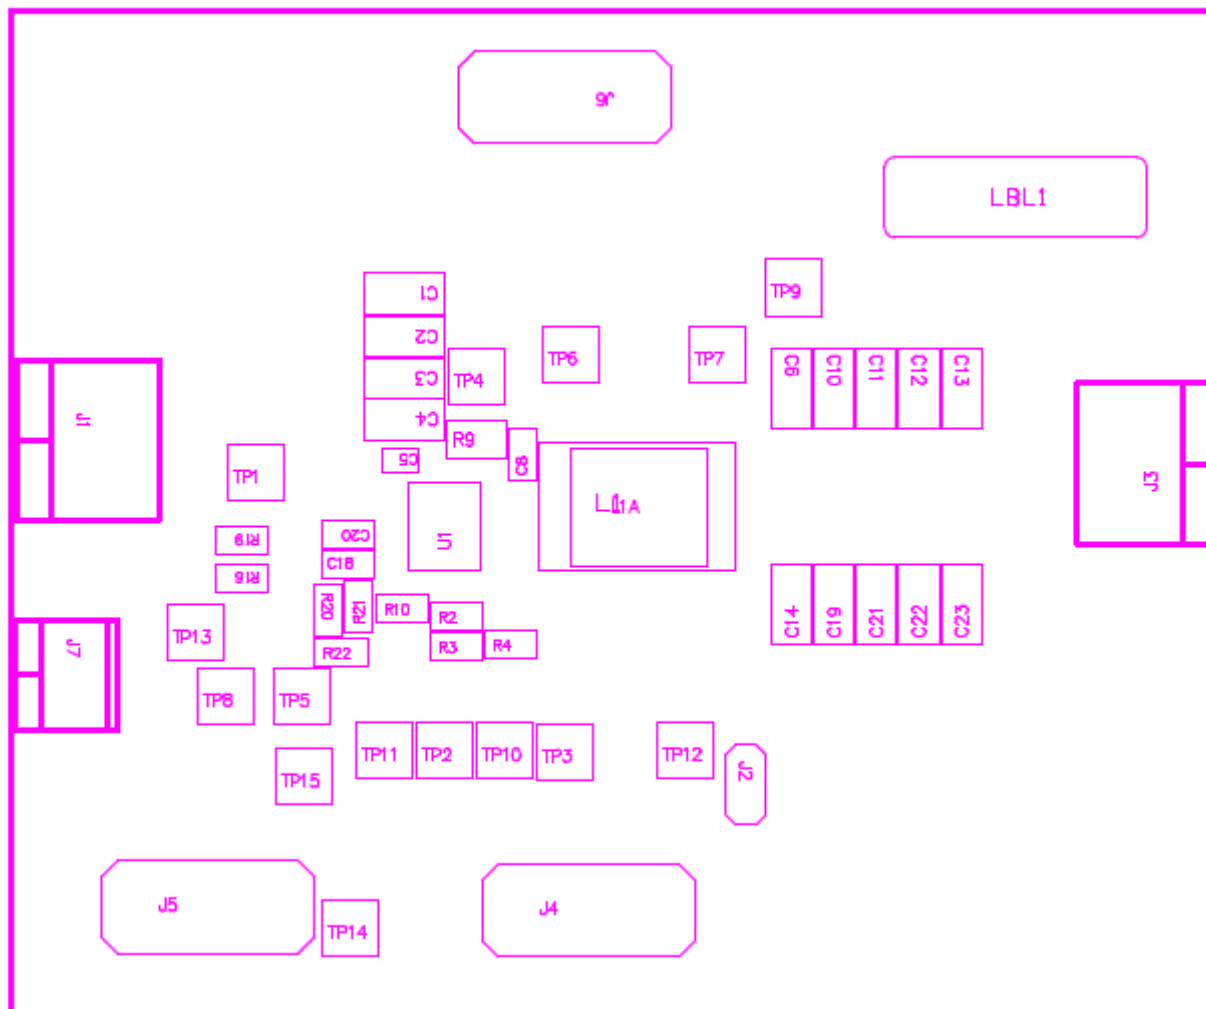

Figure 3. TPS53515EVM-587 Top Layer for Test Setup
Voltage Source—The input voltage source VIN must be a 0 to 14-V variable-DC source capable of supplying 10 ADC. Connect VIN to J1 as shown in Figure 3.
1. Prior to connecting the DC input-source, VIN, TI recommends to limit the source current from VIN to 10 A maximum. Ensure that VIN is initially set to 0 V and connected as shown in Figure 3.
1. Set up the EVM as described in Section 5 and Figure 3.